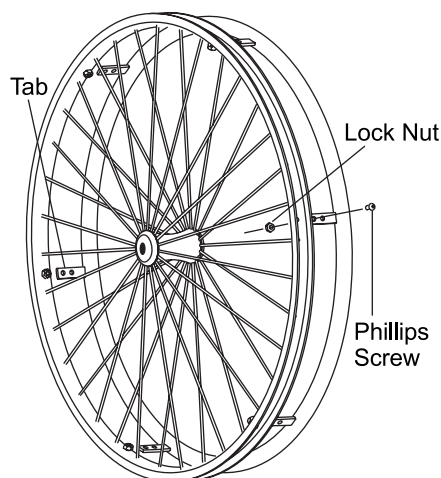

Figure 105
3. While carefully holding the tire, inner tube and rim strip to one side, hold the Phillips Screws with a screw driver and remove the locknuts that secure the handrim tabs to the rear wheel. See Figure 105.
5. Install the new handrim by reversing the procedures in step 3 above. **Note:** Your handrim may have two (2) holes on each tab as shown in Figure 105. If you choose to install the handrim in the position closest to the wheel, cut off the extra length of tab. Otherwise it could catch on your clothing or body.